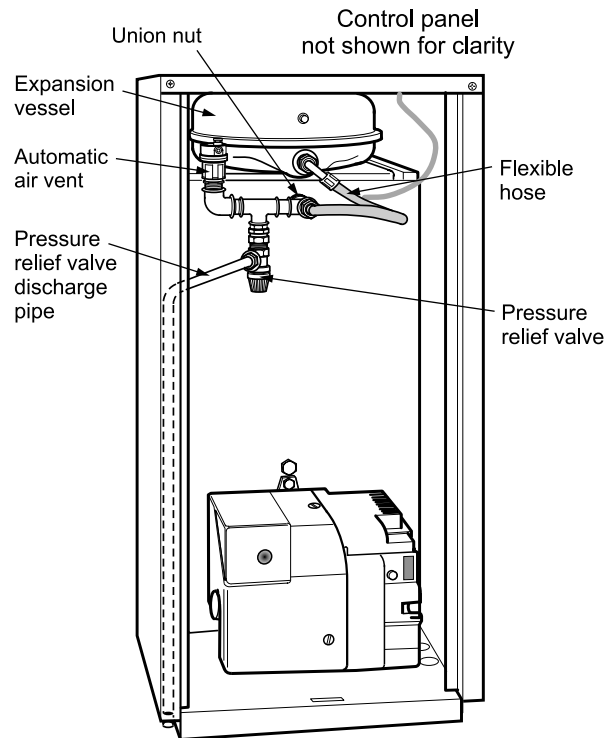

Fig. 15
See Figs. 15, 15a and 15b
- 3 Connect the relief valve/automatic air vent assembly to the  $\frac{3}{4}$ " connector, using the sealing washer and secure in position by tightening the union nut. See Fig. 15.
- 1 An automatic air vent is fitted to the top of the boiler (see Fig. 15 or 15c). Check that the small cap on the top of the air vent is screwed on fully, then unscrew it one complete turn - the cap remains in this position from now on.
- 8 Check the operation of the pressure relief valve (see Fig. 15 or 15c) by turning the head anticlockwise until it clicks. The click is the valve lifting off its seat allowing water to escape from the system. Check that this is actually happening, and water flows unobstructed from the relief discharge pipe.